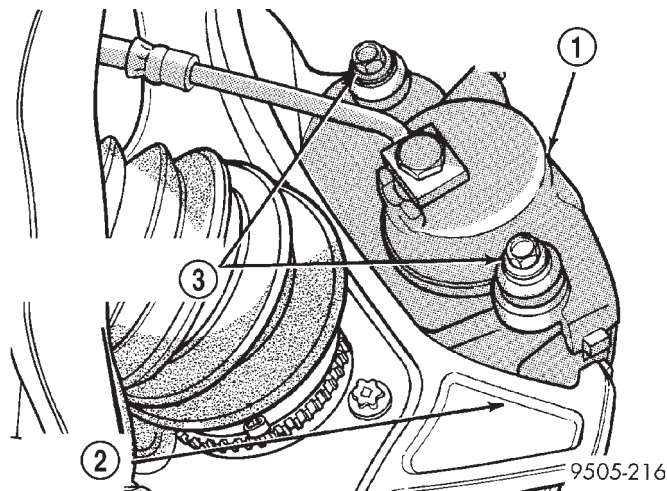

Fig. 78 Removing Caliper Guide Pin Bolts
(1) Raise vehicle on jackstands or centered on a hoist. See Hoisting in the Lubrication and Maintenance section of this manual.
(2) Remove front wheel and tire assemblies from vehicle.
(3) Remove the 2 caliper to steering knuckle guide pin bolts (Fig. 78).
(4) Install the brake caliper guide pin bolts (Fig. 78). Then tighten the guide pin bolts to a torque of 22 N·m (16 ft. lbs.).
(5) Install the wheel and tire assembly.
(6) Tighten the wheel mounting stud nuts in proper sequence until all nuts are torqued to half specification. Then repeat the tightening sequence to the full specified torque of 135 N·m (100 ft. lbs.).
(7) Remove jackstands or lower hoist.
(8) Check and adjust brake fluid level as necessary.